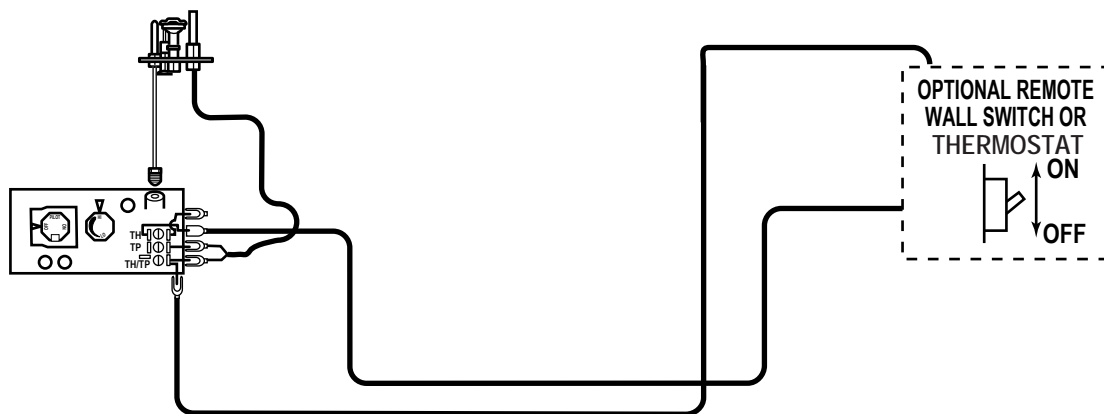

Figure 15 - Wiring Diagram for Wall Switch
A remote wall switch and up to fifteen (15) feet of 18 Ga. wire may be used with this appliance. Attach the wall switch in a junction box at the desired location on the wall. See Figure 15.